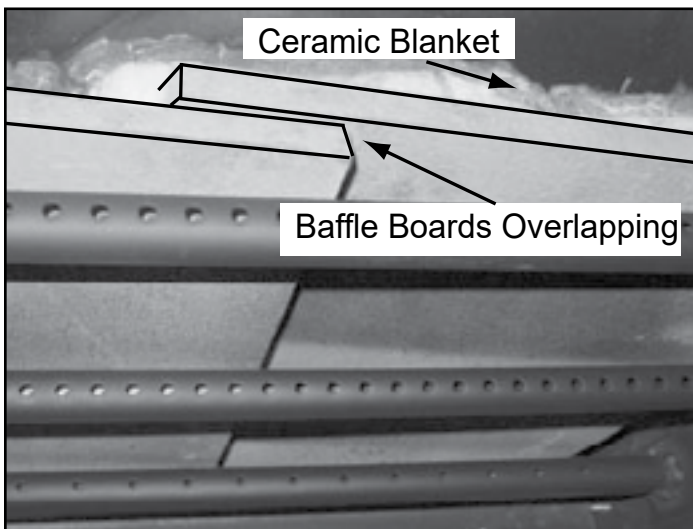

Figure 23.1
3. Once the baffle protection cover has been removed, pull the baffle boards and ceramic blanket forward about 1 inch (25mm) and then overlap the baffles about 1-2 inches (25-51mm) (**Figure 23.1**).